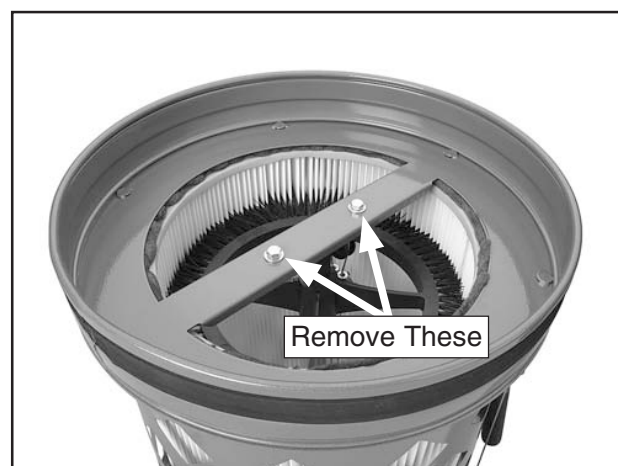

Figure 68. Cross support fasteners.
6. With help from another person to steady the canister assembly, turn it upside down and remove the two hex bolts, hex nuts, and flat washers from the cross support (see **Figure 68**), then remove the canister base from the assembly.